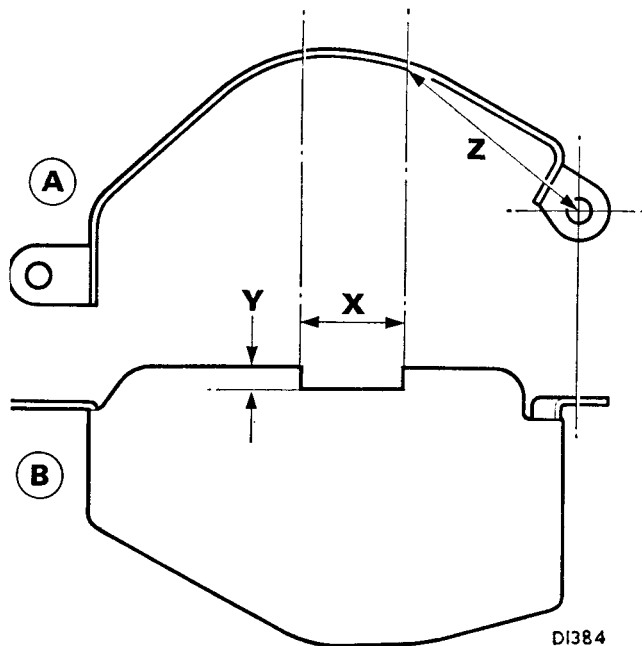

Fig. Fa.3
7. Carry out the checking procedure in item 1; slight readjustment may be necessary so that the amount of movement to engage or disengage gears is equalized in both directions.
**NOTE:** The bell-crank lever guard fitted to units having the minimum backlash bell-crank is reshaped, but the earlier-type guard can be modified (see Fig. Fa.3) to use with the later-type bell-crank.